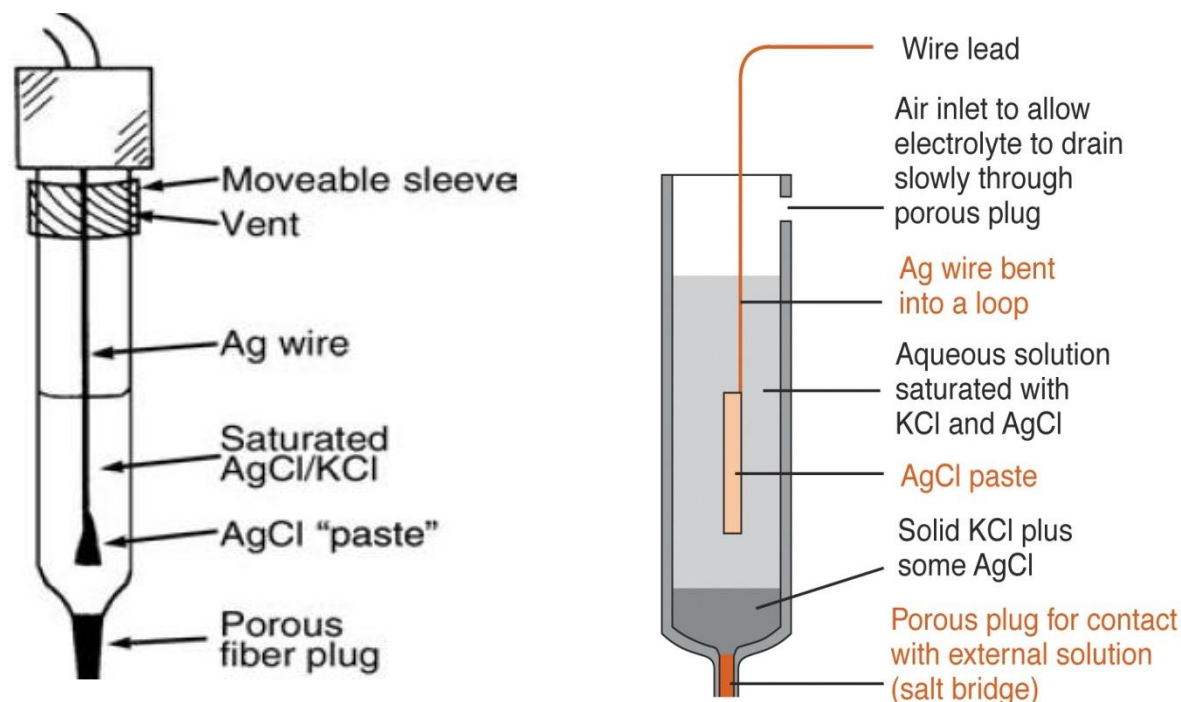

Fig. 6.2. A drawing of a commercial Ag–AgCl reference electrode. 10
- Ag wire coated at the end with a AgCl paste extends into this so/n from the external lead. See Figure 6.2.